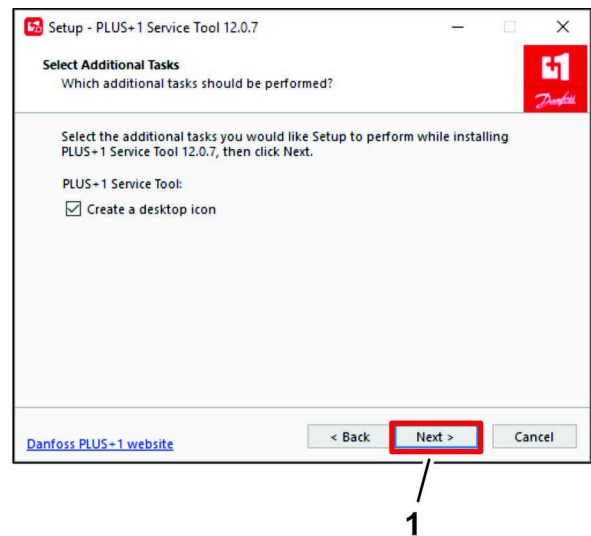

Figure 25
7. In the Select Additional Tasks dialog box, click the NEXT button (Figure 25).